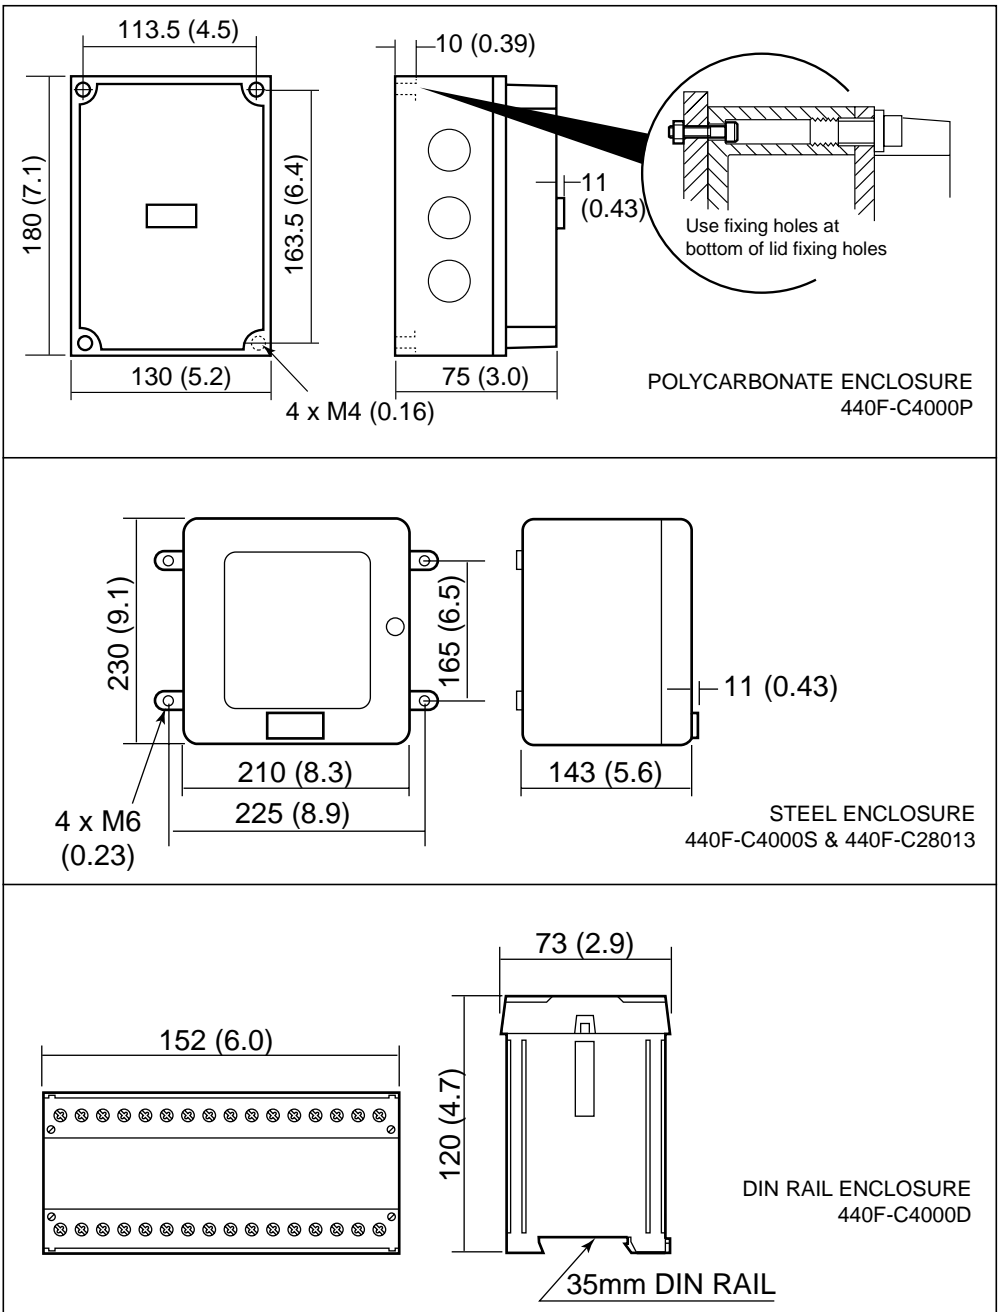

Fig. 8 Dimensions in mm (inches) - not to scale.
5.3.7 CONTROL UNIT MOUNTING (refer to section 4 fig. 8)